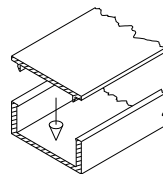

Fig. 5-2
3. Snap the caps on all channels using a rubber mallet (Fig. 5-2). The closing channel cap has a notch. This notch must be facing the male lock block for proper operation.